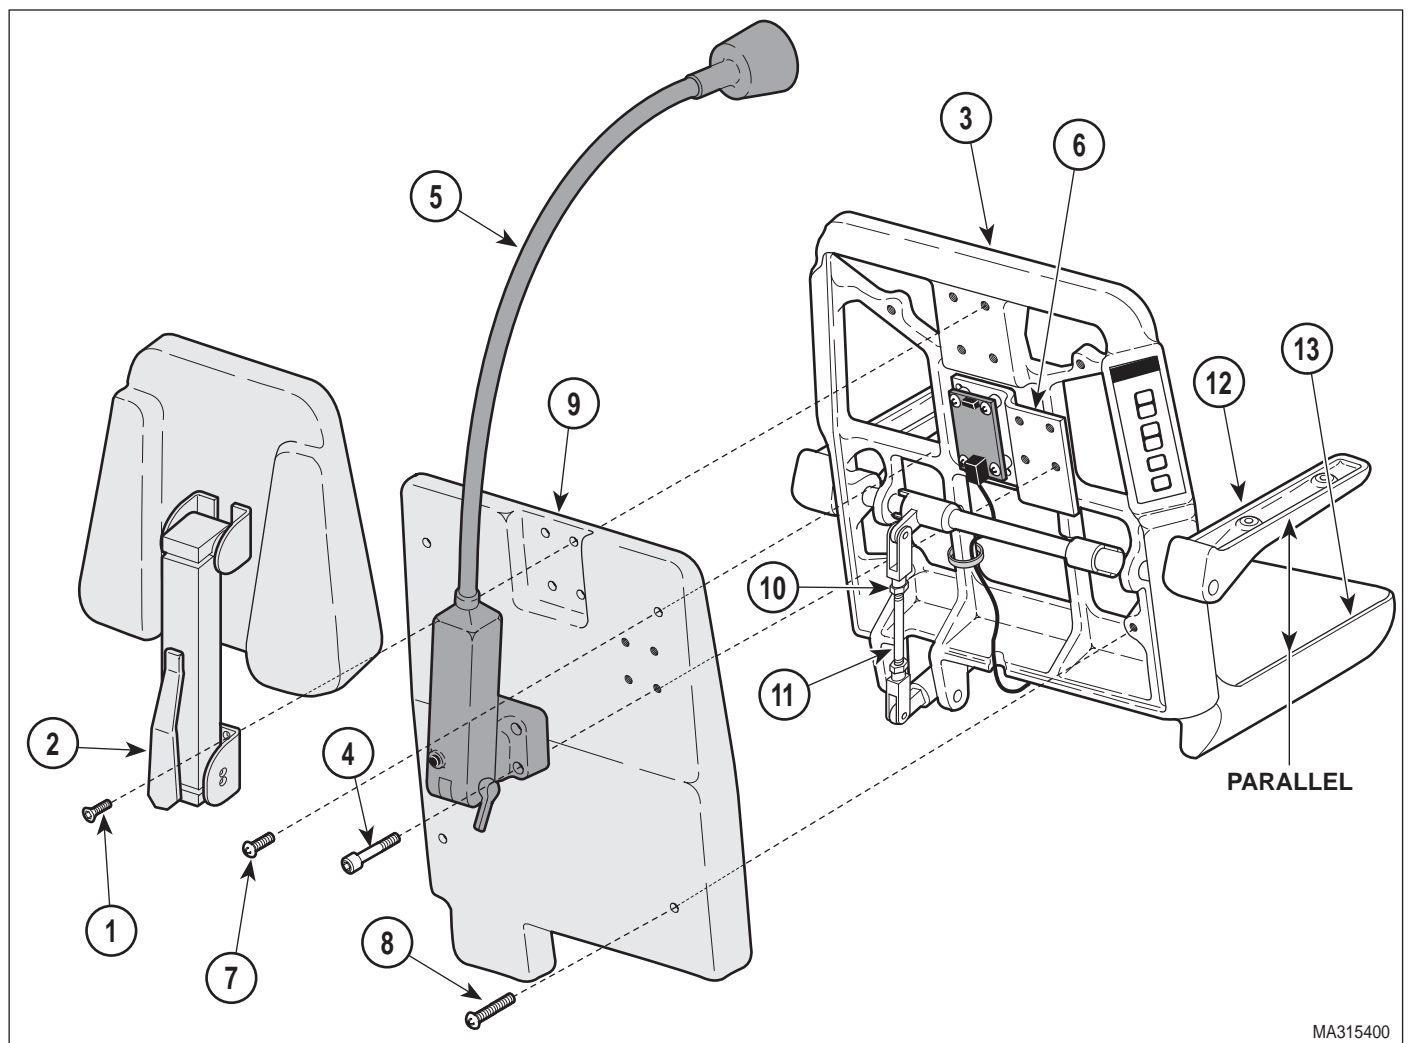

Figure 4-25. Arm Rest Linkage Adjustment
(1) Remove four screws (1, Figure 4-25) and headrest assembly or headrest block (2) from back casting (3).